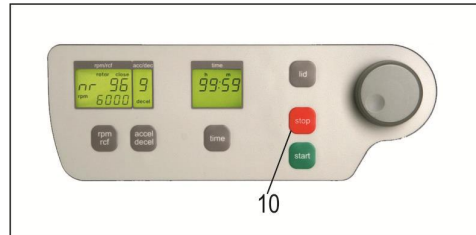

Figure 17
By the „stop“ key (10) (see figure 17) you can interrupt each run at any time. After pressing the key the centrifuge decelerates with the respective pre-selected intensity down to stand still.